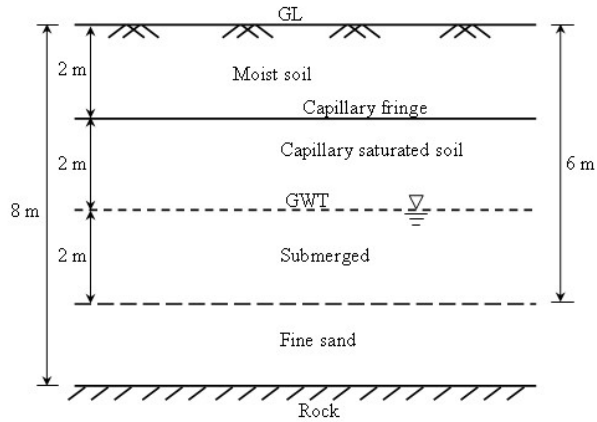

Fig.1
- (b) At a particular site (as shown in figure 1) lies a layer of fine sand 8 m thick below the ground surface and having a void ratio of 0.7. The GWT is at a depth of 4 m below ground surface. The average degree of saturation of the sand above the capillary fringe is 50%. The soil is saturated due to capillary action to a height of 2.0 m above the GWT level. Considering the effect of porosity, calculate the effective pressures at ground level, fringe level, ground water table level, at the depth the of 6 m below the ground level. [Given:  $G = 2.65$ ]